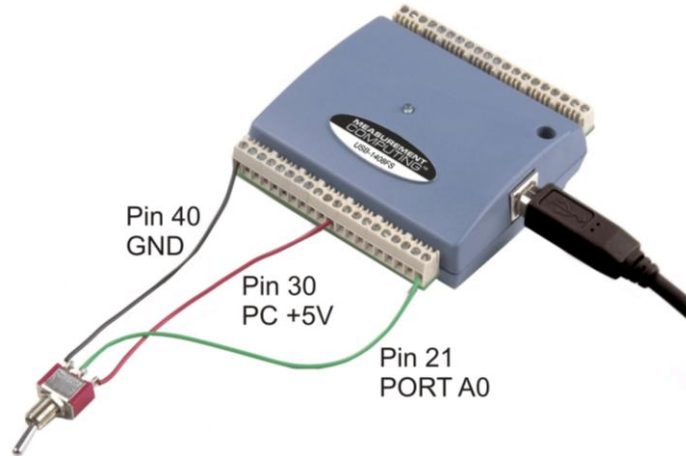
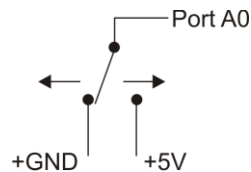

Figure 9. Digital connection Port A0 detecting the state of a switch
Figure 10. Schematic showing switch detection by digital channel Port A0
When you configure the digital bits for input, you can use the digital I/O terminals to detect the state of any TTL level input. Refer to the switch shown in Figure 9 and the schematic shown in Figure 10. If the switch is set to the $+5\text{ V}$ input, Port A0 reads *TRUE* (1). If you move the switch to GND, Port A0 reads *FALSE*.